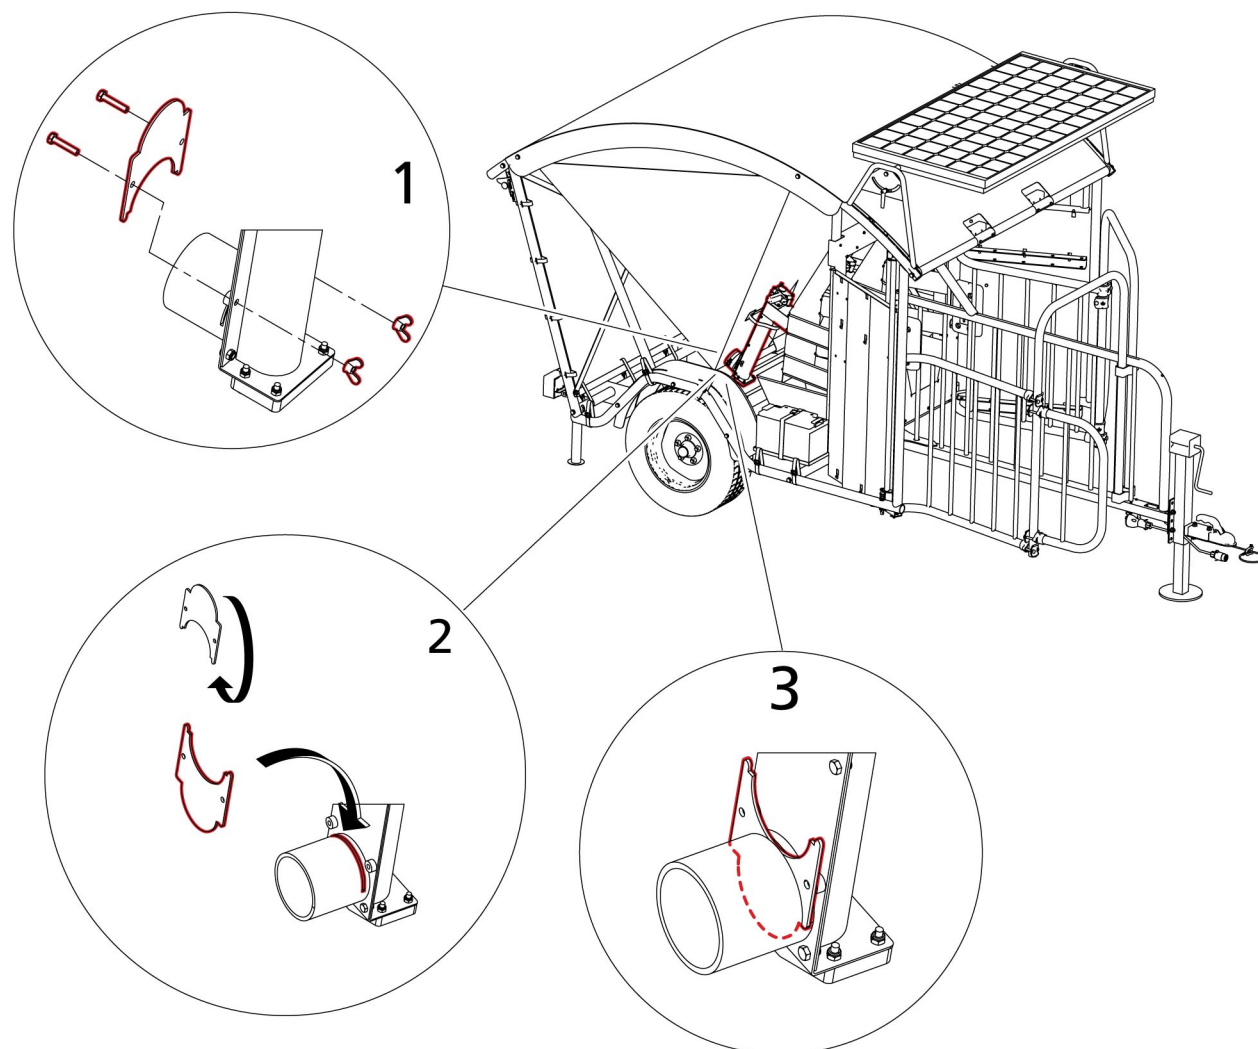
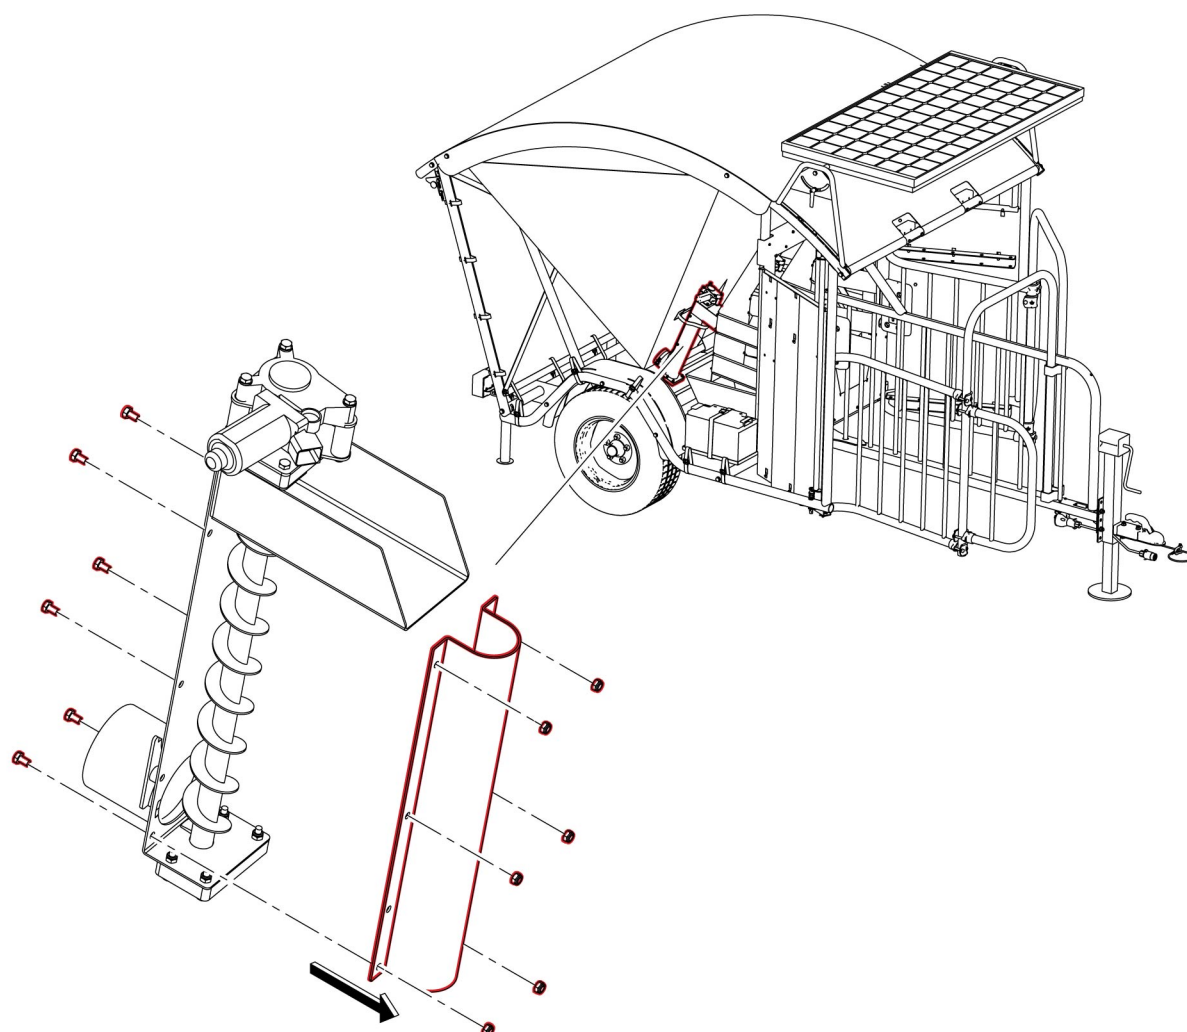

Figure 14. Clean the auger
Figure 15. Removal/install the auger cover
1. Remove the two wing nuts (1, fig. 14, page 9-2) and washers that attaches the latch to the auger housing.
2. Rotate the latch 180 degrees (2) and slide it into the slot (3) in the feed supply pipe.
3. Remove the six nuts and washers (fig. 15, page 9-3) that attach the covering of the auger to the auger housing.